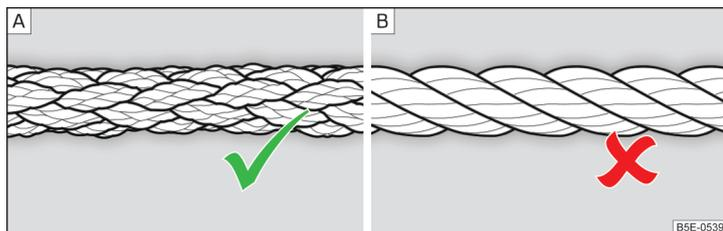

Fig. 187 Braided tow rope / Spiral tow rope
For towing a braided tow rope is to be used » Fig. 187- A.
- For towing no spiral tow rope is to be used » Fig. 187- B, the towing eye may unscrew out of the vehicle - there is a risk of accidents.